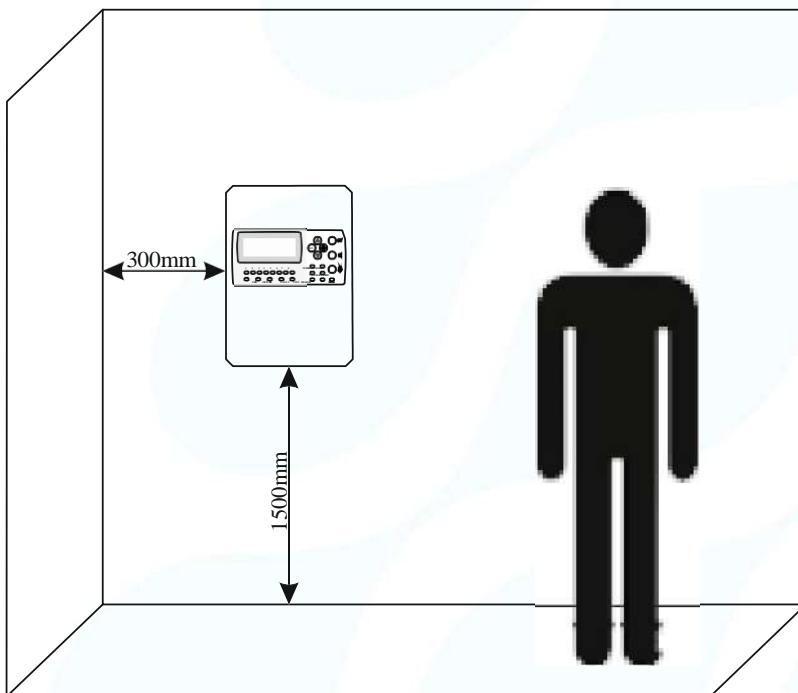

Fig. 1
- Choose the most suitable location for the fire alarm panel in the premise (Fig. 1), away from heating appliances, points of dust accumulation or access to water; ambient temperature between -5°C and $+40^{\circ}\text{C}$. Warning: the fire alarm panel is not waterproof!